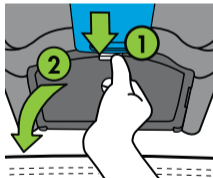

Figure 60
- Open UAS Bin Door by pressing and holding top of Lock Tab then rotating UAS Bin Door down, as shown in **Figure 60**.